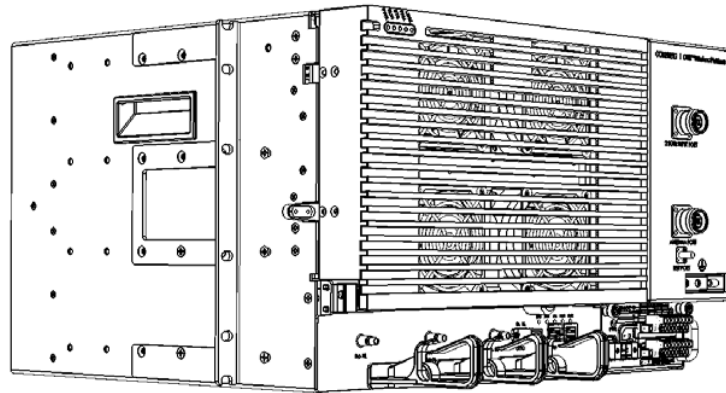

Figure 4-5. Required Position of MRU Rack Ears
1. Remove each rack ear and reassemble according to position shown in Figure 4-5.